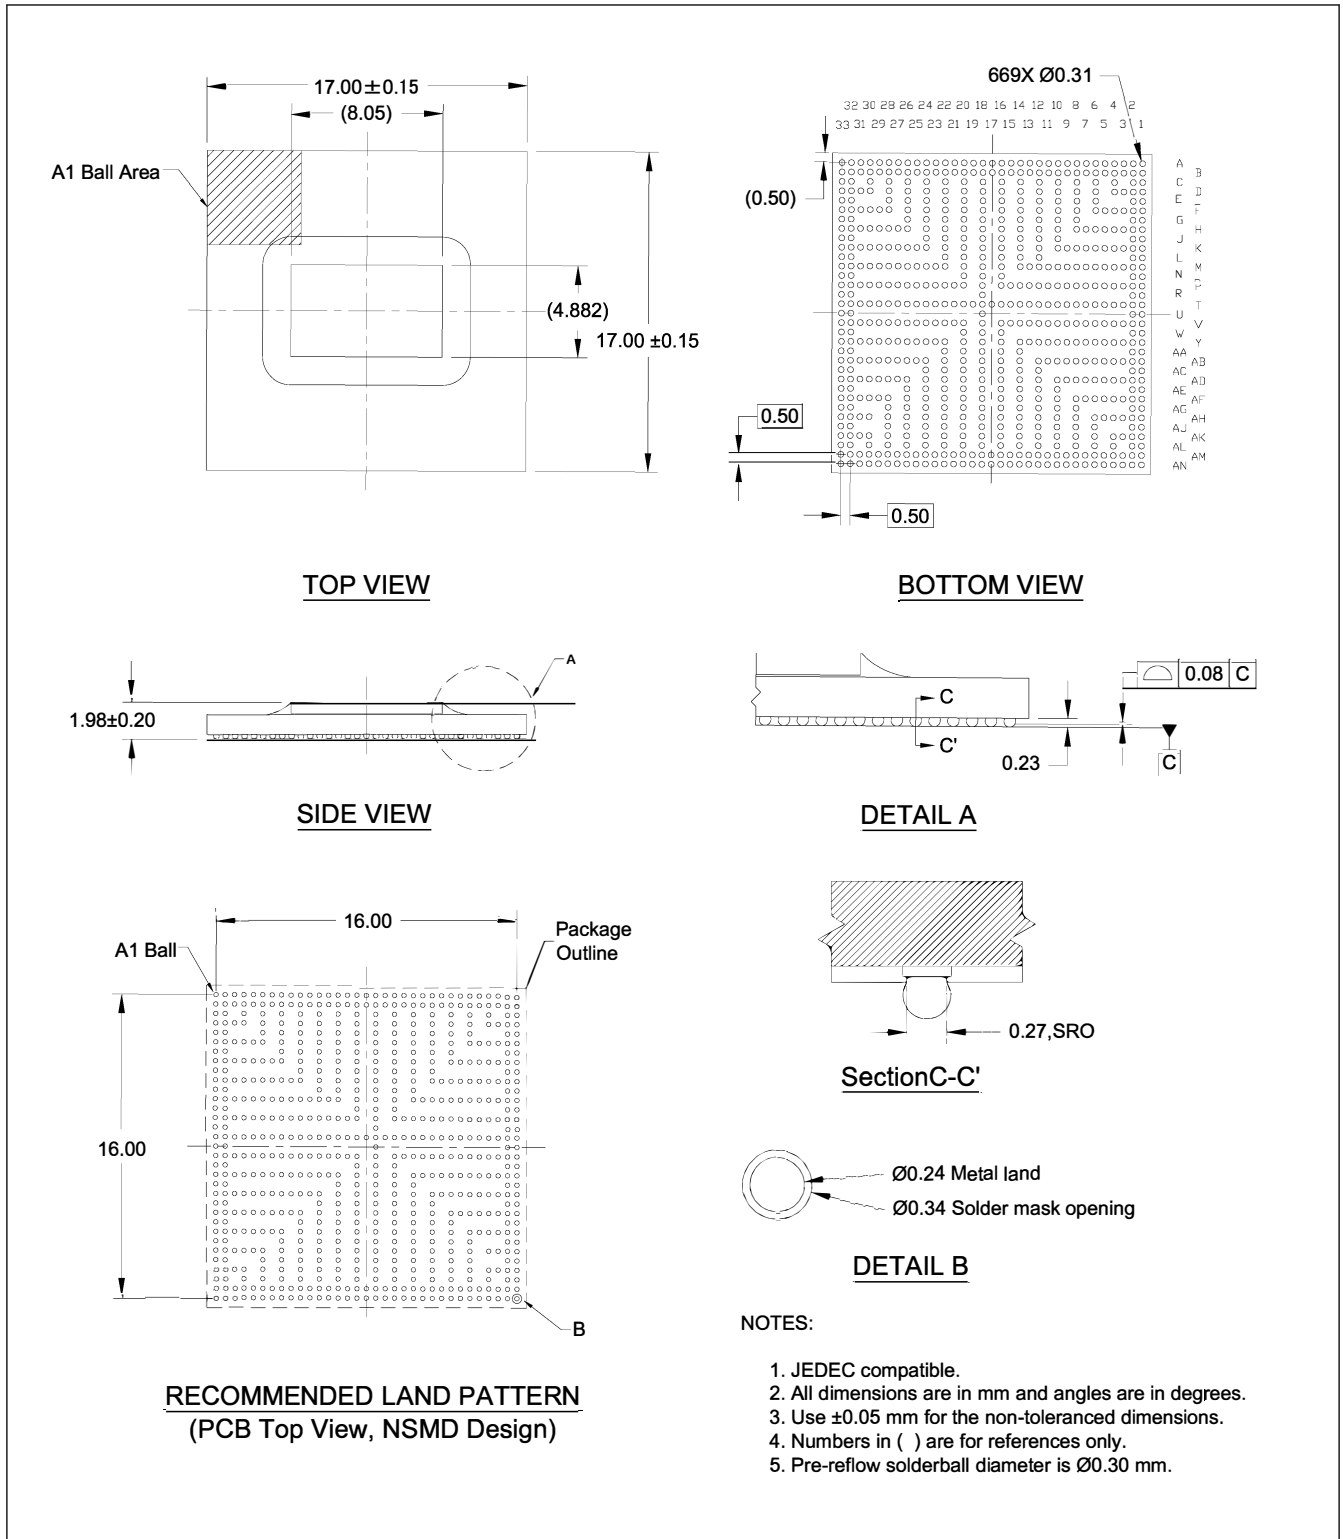

Figure A1.3 669-pin FCBGA
- Added Figure A1.3 669-pin FCBGA